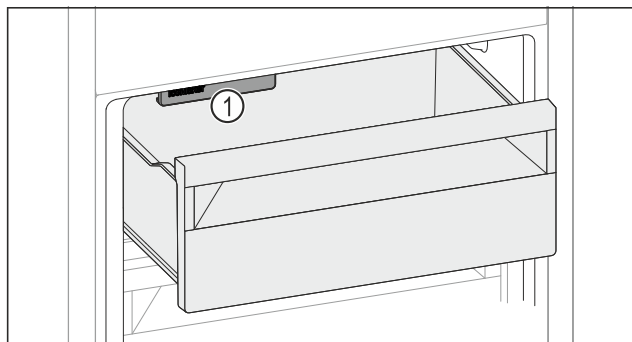

Fig. 142
- ▶ Observera IceMaker Fig. 142 (1).